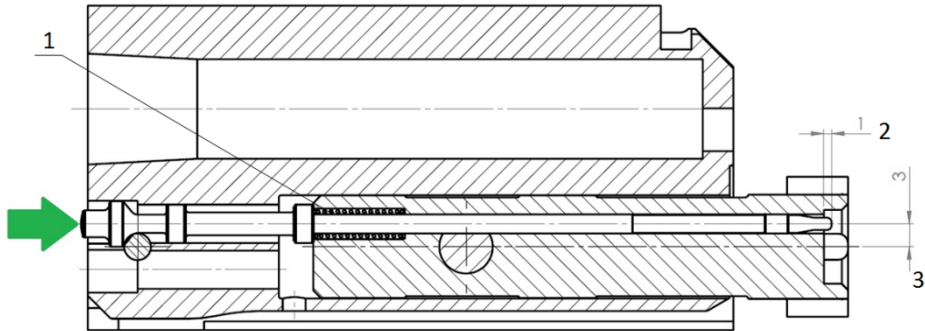

Fig. 15. Fail-safe structural features of the UTM conversion breech bolt for the MSBS 5.56 assault rifle:
The fail-safe (Fig. 15) that prevents firing live combat rounds from the converted firearm consists of the eccentric offset of the firing pin by 3 mm (3). The extension of the firing pin tip by 1 mm (2) from the breech bolt head prevents firing with the UTM TBR. A second fail-safe of the training conversion kit is the firing pin spring (1) which prevents the discharge of the firearm through firing pin inertia when a round is fed into the chamber or whenever the firearm falls onto a hard surface.